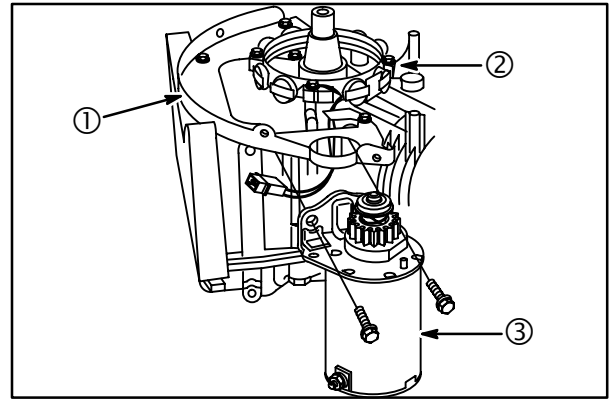

Fig. 15
1. Install back plate (1), **Fig. 15**. Torque screws to **65 in. lbs. (7 Nm)**.
2. Install alternator (2). Torque screws to **20 in. lbs. (2 Nm)**.